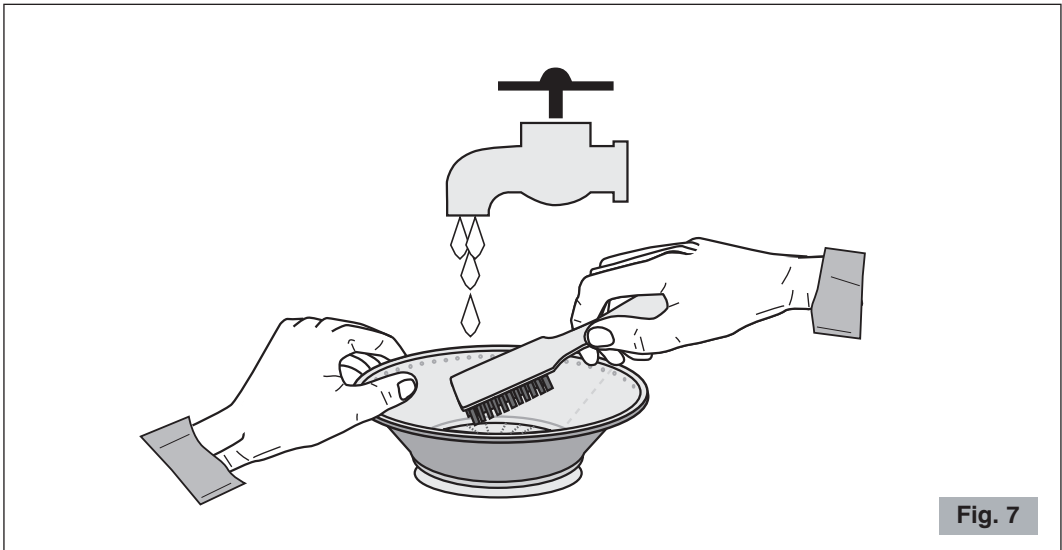

Fig. 7
- To obtain a higher yield of juice always control that the basket is well-cleaned by using the nylon brush provided. Put the basket under running water and use the brush to clean the inside of the strainer (see Fig. 7). Hold the basket up against the light to make sure that none of the perforations are blocked. Should the perforations of the strainer remain blocked, immerse the basket in a solution of hot water with 12% lemon juice or vinegar to loosen the blocked material. Alternatively, wash the basket in a dishwasher.